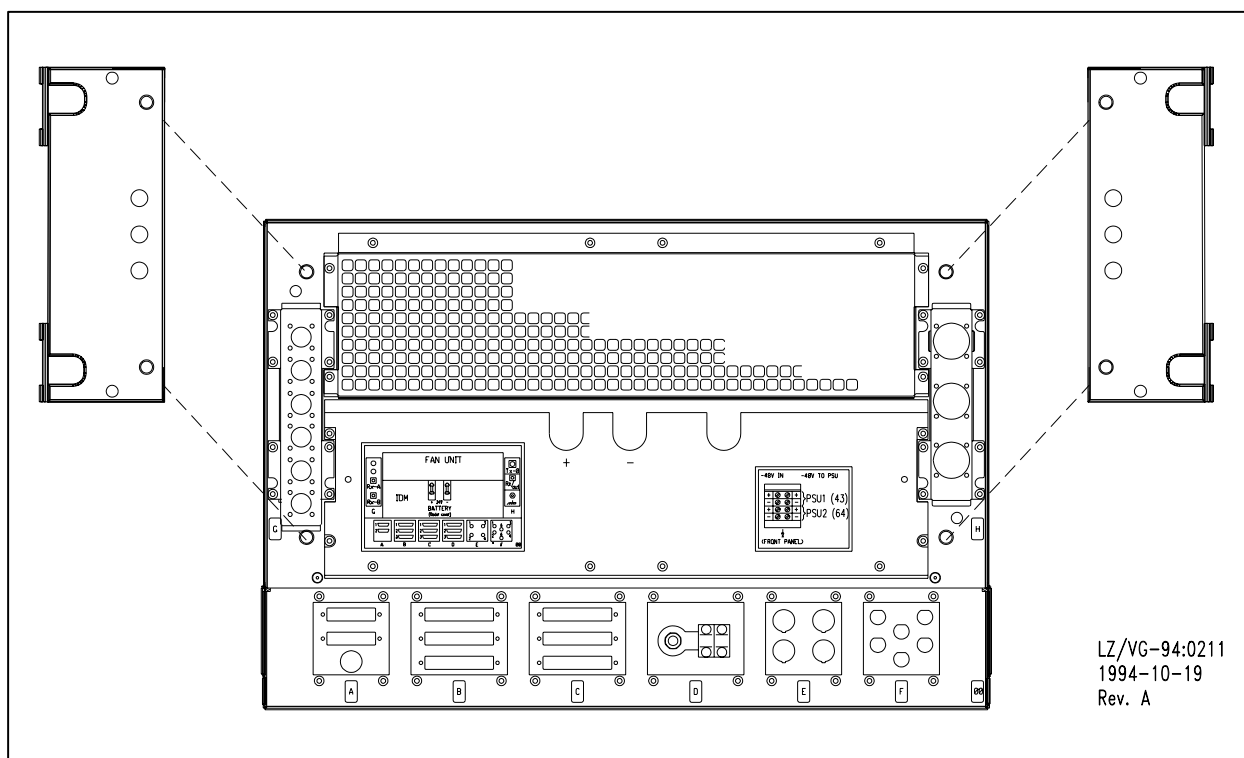
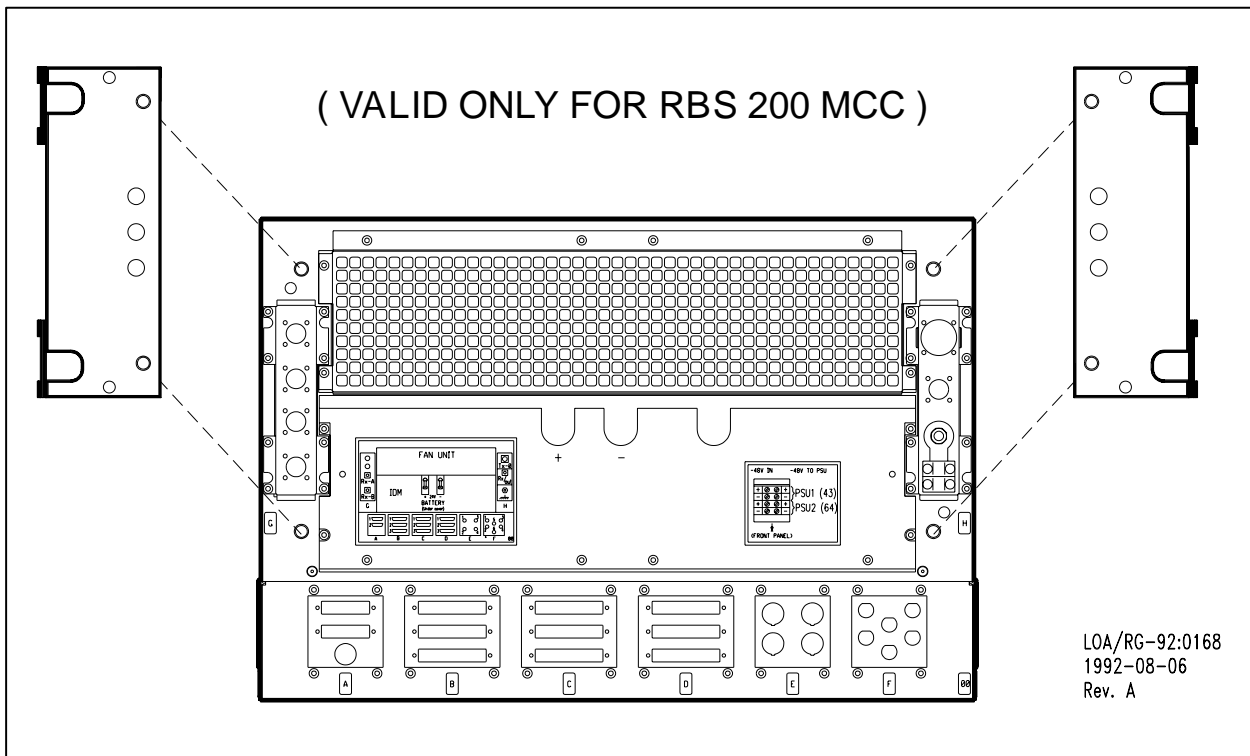

Figure 1 Mounting of top bars SXA 120 183 on master cabinet
Figure 2 Mounting of top bars SXA 120 183 on extension cabinet
1. Mount the top bars with screws and washers as shown in figure 1 and figure 2.